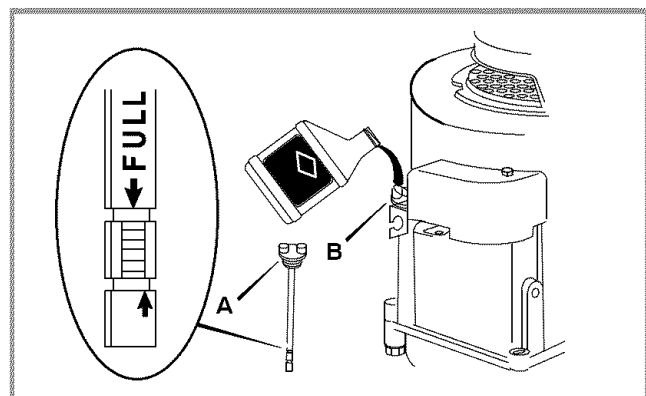

Figure 6: Oil Fill
- Make sure the engine is level. Remove the dipstick (A) from the engine oil fill (B).
- Make sure that the oil level is at the FULL mark shown on the dipstick (see Figure 6).
- ☐ Check oil level daily, or after every eight (8) hours.
- 6 Fill to the FULL mark shown on the dipstick (see Figure 6). Pour slowly. Do not overfill.